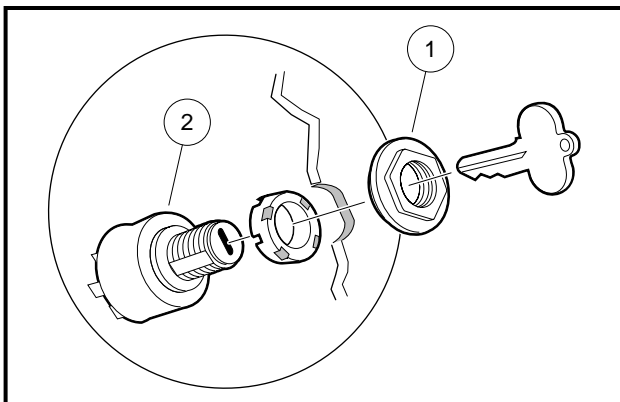

Figure 12-18 Key Switch Removal
- 4.1. Remove the key switch nut (1) (**Figure 12-18, Page 12-15**).